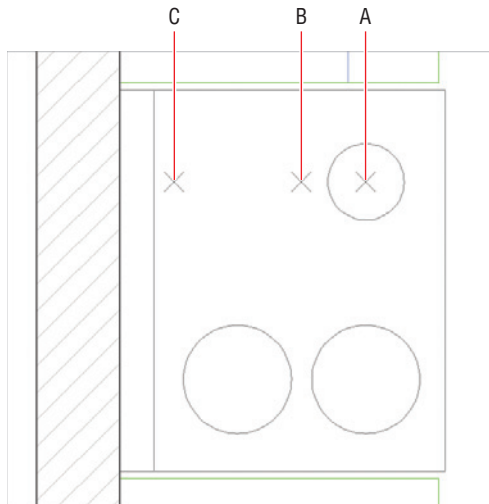

FIGURE 2.24 Drawing a circle by locating its center using node snap
5. Select Node from the context menu, and then click point A, as shown in Figure 2.24. The prompt in the Command window reads:
Type **2P** to indicate the two-point option, and press Enter. Hold down Shift, and right-click to open the Object Snap context menu. Select **Node**, and then click point B, as shown in Figure 2.24.
7. Hold Shift again, right-click, and choose **Node**. Click point C, as shown in Figure 2.24, and the **CIRCLE** command is completed.